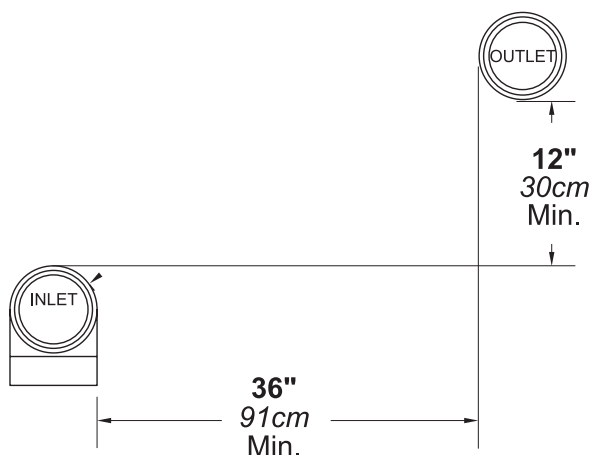

Figure 4. Minimum Venting Distance.
4. If this unit is side-wall vented to the same wall, locate the vent terminal at least 3 feet (0.9m) horizontally from the combustion air terminal, and locate the vent terminal at least 1 foot (0.3m) above the combustion air terminal (see Figure 4).